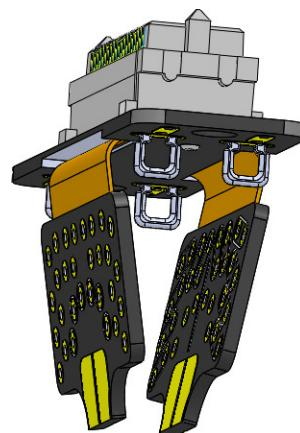

Figure 3-13 EXC-8000CON Assembly Folded
2. Fold the EXC-8000CON assembly and insert it into the connector hood. See figures 3-13 and 3-14. (These figure do not show the soldered wires.)